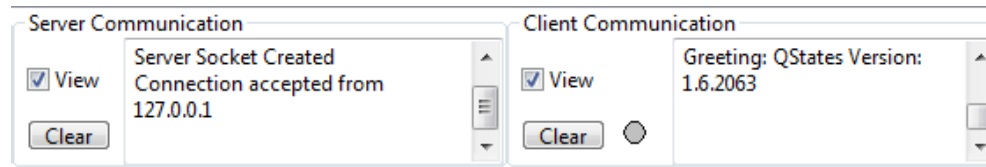
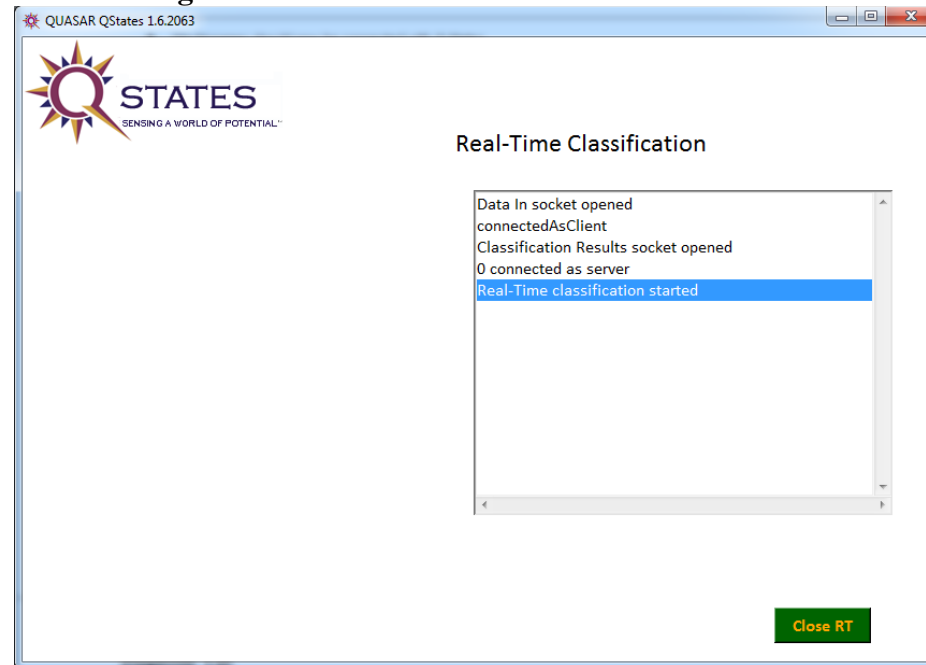

Figure 43 – DSI-Streamer Confirms Connection
Figure 44 – QStates Confirms Connection
- Both the TCP-IP tab of DSI Streamer (Figure 43) and Q-States (Figure 44) should confirm the connection.